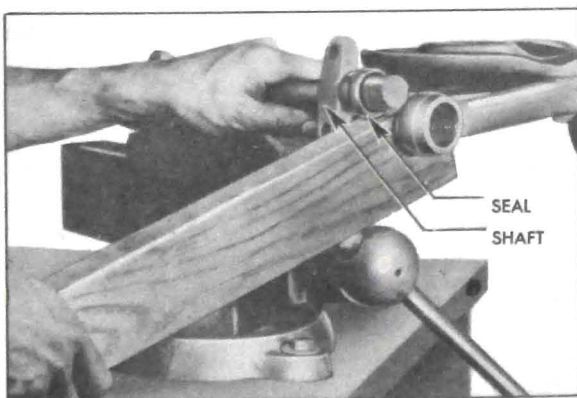

Figure 7-13—Springing Arm Over End of Shaft
5. Insert one end of shaft with the seal in place in one control arm end and force opposite end of shaft into the other control arm end. A piece of wood approximately $1\frac{1}{4}$ "x $2\frac{1}{2}$ "x24" long can be used as a pry. See figure 7-13.